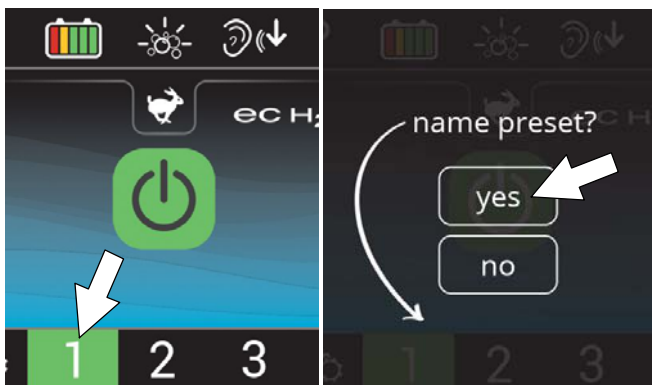

FIG. 64
2. Then press and hold a zone button until a screen prompts you to name the new preset zone. Select “yes” to name the preset zone (Figure 64).